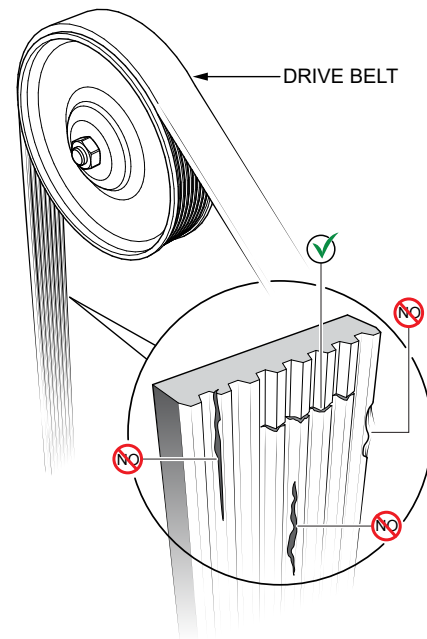

Figure 73. Drive Belt Inspection
1. Inspect the **drive belt** (Figure 73) for damage and wear. Horizontal cracks (across the belt) are acceptable. Vertical cracks (direction of belt ribs) that intersect with horizontal cracks are not acceptable.